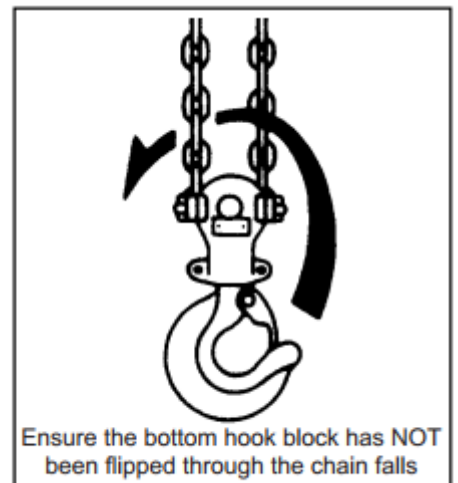
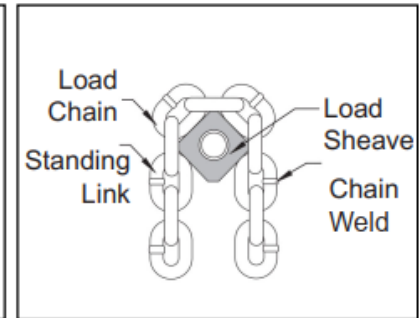

FIGURE 2
FIGURE 13
- Examine the load chain to ensure that there are no twists. 6 ton lever hoists have 2 falls of load chain. Twists can arise from the bottom hook being accidentally turned over through the load chains (See Fig. 2).
» **LOAD CHAIN REEVING:** make sure welds on standing links are away from the load sheave. Reinstall chain if necessary (See Figure 13). Make sure chain is not capsized, twisted or kinked (See Figure 2 & 3). Adjust as required.